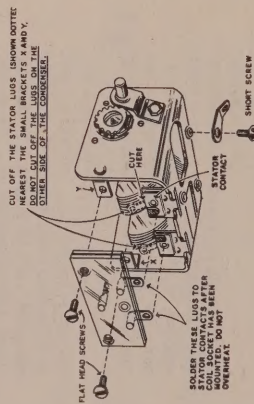

Figure 3
- (c) Study Figure 3 and cut off the two stator lugs indicated. These lugs (shown dotted) are nearest the small brackets which are riveted to the condenser frame.
- (d) Solder the two outside coil socket lugs to the nearby stator contact as shown in Figure 3.
- (✓) Mount the coil socket on the tuning condenser frame as shown in Figure 3. Use two 6-32 flat head screws.
- (✓) Place a length of bare wire between solder lug and unused coil socket prong (S).
- (✓) Mount another solder lug on the tuning condenser frame as shown in Figure 3. Use a short 6-32 screw.